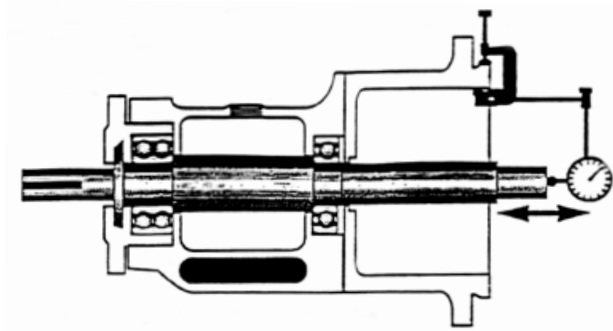

Figure 44 - Checking for shaft end-play
3. Check end play (thrust) - maximum of $0.005''$ (0.13mm) (Figure 44).